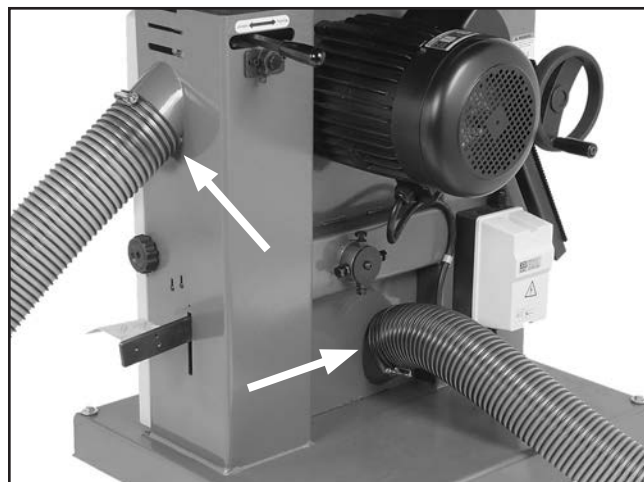

Figure 13. Dust hoses attached.
- Fit a 4" dust hose over each dust port, as shown in **Figure 13**, then secure them in place with hose clamps.